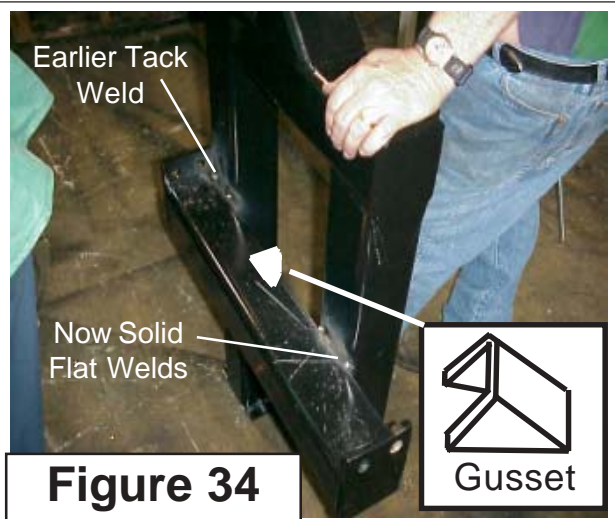

Figure 34
9. Weld High Frame to Mounting Tubes. NOTE: Turn the high frame over and weld the bottom side first, THIS IS REQUIRED because you have the top side tack welded and no weld on bottom side of mount tube. If you weld the top first the tube will pull at weld and mis-align itself. SO ALWAYS weld bottom of mount tube first. (See Figures 34, 35 & 36) The Mounting tubes are to be welded completely all the way around to High Frame. These welds must be flat welds, this will require that the high frame be turned over so the bottom is welded first and completely, then turned over and the top welded. The ends of the mount tubes need to be welded to the high frame. There is a gusset (See Figure 34) that must be welded to the high frame and mounting tube on the left hand side, This is to give more weld surface where the mounting tube and high frame weld together. (See Figure 34, 43 & 46)